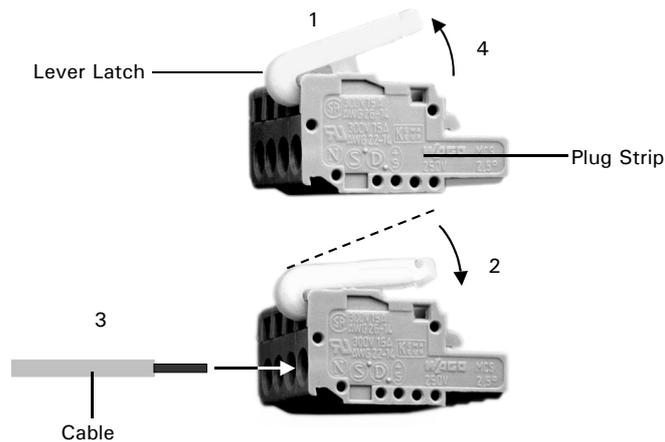

FIGURE 1. Connector for Terminal Strips
- a) Insert the rounded end of the lever latch into the square opening of the selected connector of the plug strip (item 1, FIGURE 1).
- b) Press the lever latch down as indicated by the arrow so that it is flush with the top of the plug strip (item 2, FIGURE 1).
- c) Insert the un-insulated end of the wire into the opening under the catch (item 3, FIGURE 1).
- d) Release the catch and remove the lever latch from the plug (item 4, FIGURE 1).